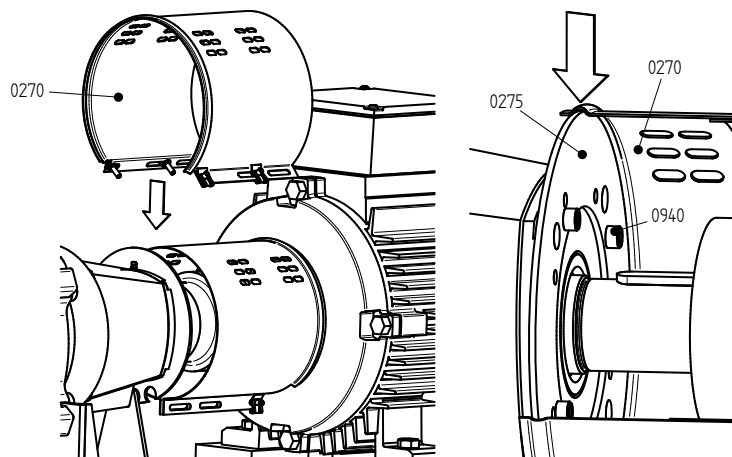

Figure 10: Fitting the jacket at pump side.
- 1 Unscrew bolts (0940) and remove the assembly plate (0275) from the bearing bracket (2100). See figure 10.
- 6 Remove the coupling half from the pump shaft and remove the coupling key (2210).
- 3 Fit the assembly plate (0275) to the bearing bracket (2100) with bolts (0940). See figure 10.
- 4 Fit the coupling key (2210) and fit the coupling half onto the pump shaft.